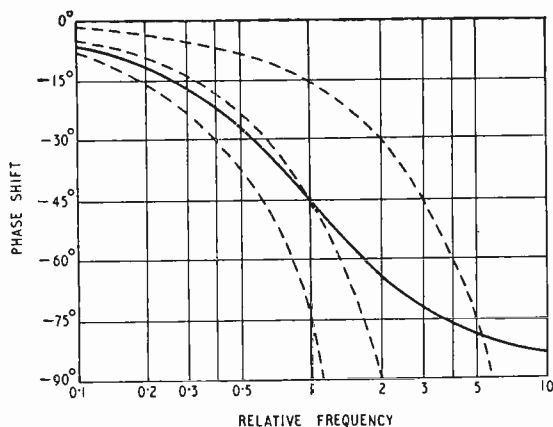

Fig. 7. To the actual phase-shift curve of Fig. 3 are added dotted curves all of which represent zero phase-frequency distortion.
Fig. 8. Whereas the actual phase-lag curve in Fig 7 causes hardly any phase distortion up to the high-frequency cut-off, the phase-lead down to and beyond low-frequency cut-off falls right across the no distortion lines, one of which is shown here.
that is flat is the one at 0°; all the others must indicate phase shifts *proportional to frequency*. If the shift at the reference frequency (1) is 45° as in Fig. 3, at twice the frequency it must be 90°; at four times, 180°; and so on. Such a curve does in fact follow Fig. 3 fairly closely up to 45° (Fig. 7) although beyond that it goes right off. So although the amount of a/f.d. up to that point, which is usually tolerated, is accompanied by a relatively large amount of phase *shift*, it is not a large amount of phase *distortion*. It looks as if p/f.d. is a negligible factor in the distortion of any waveform by a top-cut circuit having a turning frequency no lower than the highest significant frequency in the waveform; practically all the distortion is a/f.d. That does not, of course, mean that the phase shift of the waveform as a whole can always be ignored, but just that it does not appreciably affect the wave shape.
How does it actually work out? Fig. 11 shows what the oscilloscope reveals when tests are made under the conditions just described. Waveform (a) corresponds to Fig. 10(a), and (b) to 10(b). There is no doubt that the l.f. distortion (b), though under apparently much more favourable conditions, is more visible than the h.f. Which was more troublesome in practice would depend on whether the need was for a steep front or a flat top. In (a), the distortion is due mainly to the weakening of the harmonics, which reduces the steepness of the wave-front. As we saw in Fig. 7, there is very little relative phase shift except at frequencies which are barely represented in the output. In (b), on the other hand, a/f. distortion is almost negligible, and the pronounced tilting of the horizontal parts of the square wave is due almost entirely to the phase-shift of the fundamental relative to the harmonics. An approximation to it can be obtained by adding to a true square wave the difference between a sine wave starting at  $0^\circ$  and one starting at  $11.3^\circ$ , both of them having an amplitude  $4/\pi$  times that of the square wave.